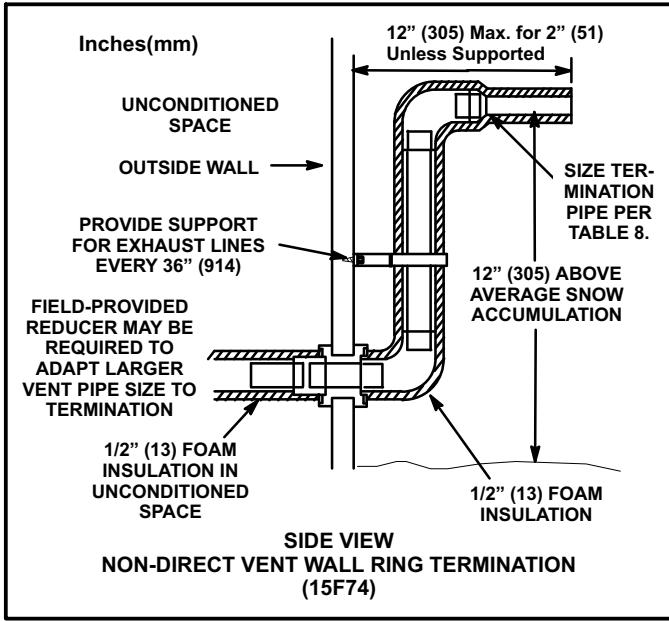

FIGURE 42
- 3 - If exhaust piping must be run up a side wall to position above snow accumulation or other obstructions, piping must be supported every 3 feet (.9m) as shown in figure 22. Refer to figure 42 for proper piping method. When exhaust piping must be run up an outside wall, any reduction in exhaust pipe size must be done after the final elbow.